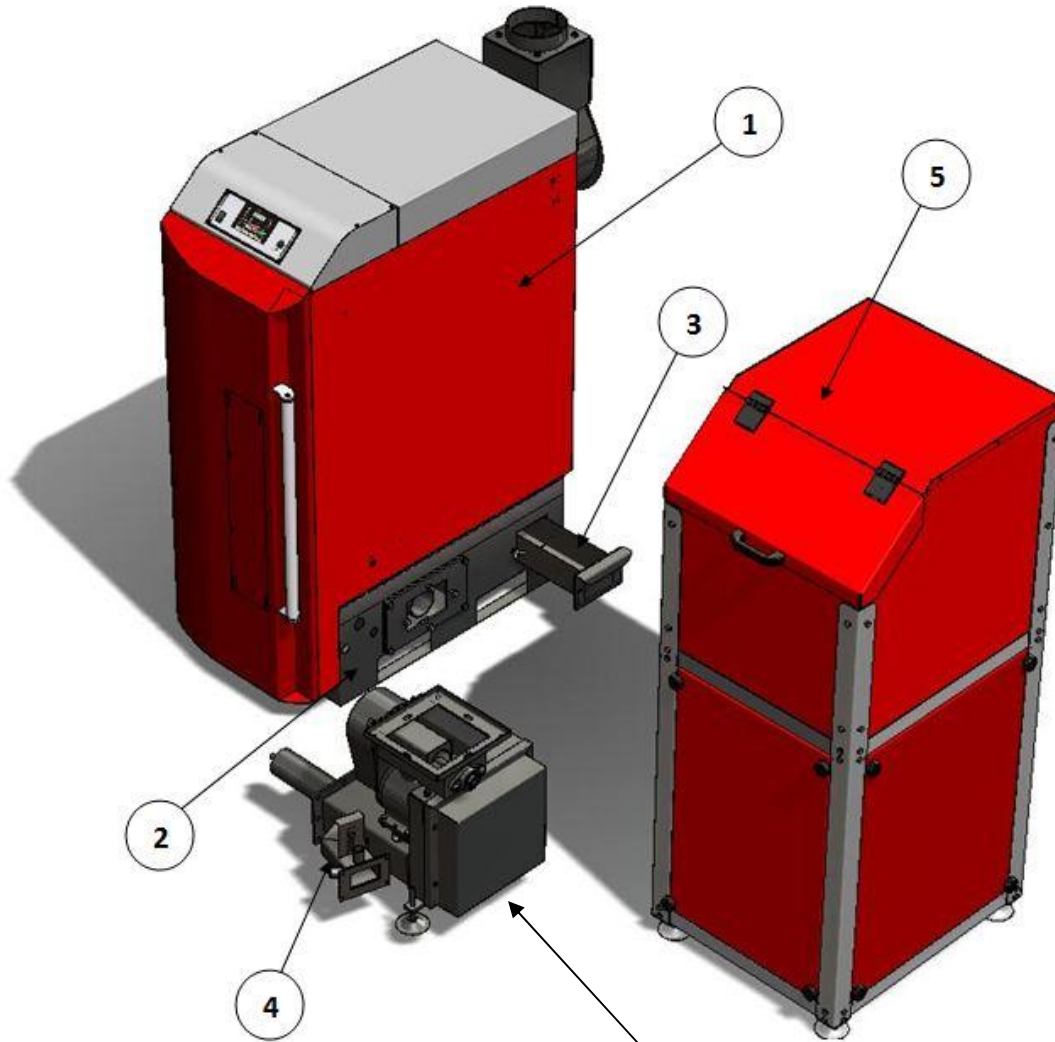

Figure2. Parts of boiler
Combustion chamber (**figure 2, pos. 2**), in its principle of work. The so-called, „spring up“, where the zone of transport of fuel is going vertically upwards i.e. it springs up to the combustion zone. It is made of solid insulating materials and cast iron.
Fuel transport (**figure 2, pos. 4**) is provided by screw transporters. There is a noticeable difference in the feeder for BIOmax23.1 and the feeder for BIOmax35. In fact, there is the difference in the form of valves for setting the air assembled onto the feeder of BIOmax23.1, all these in order to get the best possible emission of flue gases (**figure 2**), further explained in text in **item 8.2**. The fuel is coming from the silo of the capacity of 240 L (**figure 2, pos. 5**). If necessary, it is easy to dismantle the whole assembly into three independent entities: silo, the mechanism for setting and boiler. (**figure 2**)